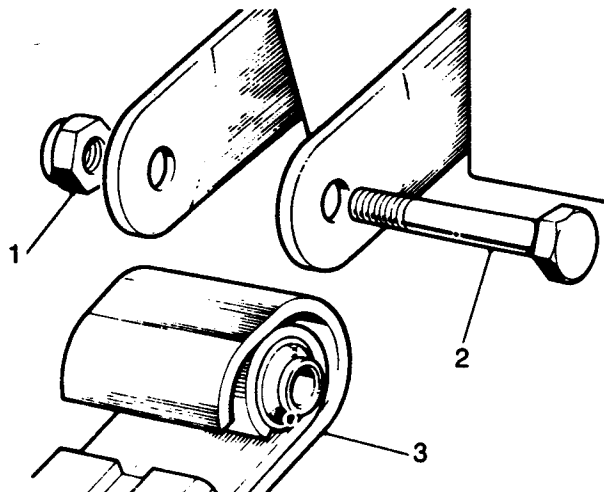

Fig I4.3
- (7) Refer to Fig I4.3. Remove the self-locking nut (1) from the shackle pin in each spring eye.
- (8) Remove the shackle pin (2) from the rear end of the spring, the pin is threaded into the inner shackle plate.
- (9) Remove the shackle pin from the front end of the spring.
- (10) Remove the road spring (3) complete.